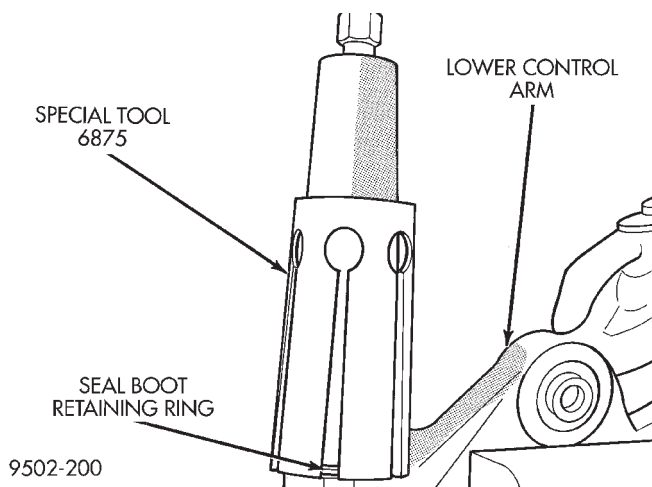

Fig. 85 Retaining Ring Installed In Ball Joint Seal Boot
(7) Continue pushing retaining ring down Installer, Special Tool, 6875, until it is installed in the retaining ring groove of the seal boot (Fig. 85).